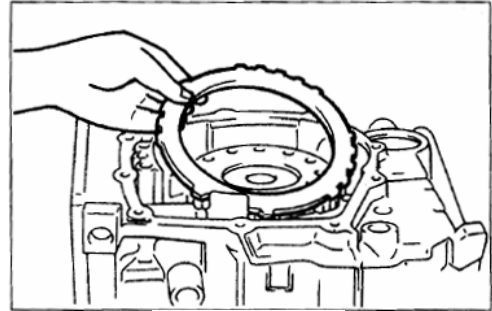

Fig 11A-86
(33) Install snap ring. See Fig.11A-87。